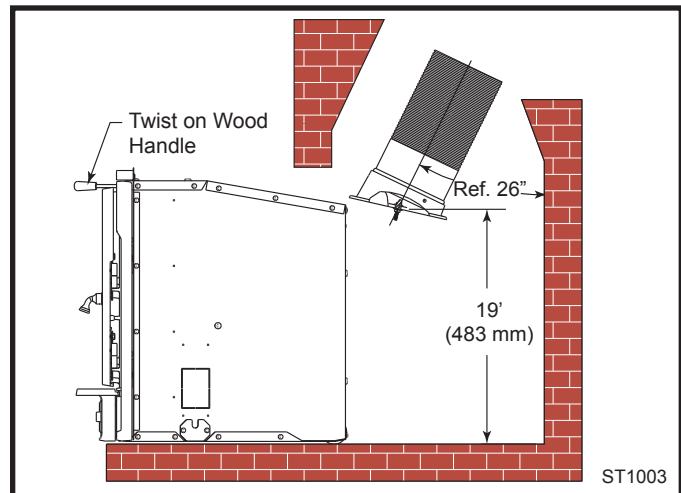

Fig. 7 Measured height from the finished hearth surface to the center bar of the flue collar.
- Install the connector pipe or liner so that the height measured from the finished hearth surface to the center bar of the flue collar is 19" (483 mm). (Fig. 7) This will allow an easy connection once the stove is rolled into place.
10. Install the supplied wooden handle by twisting clockwise onto the primary air control. (Fig. 7)